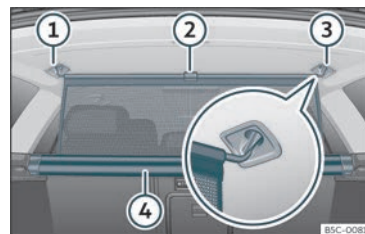

Fig. 121 In the luggage compartment: securing the net partition.
- Pull up handle »» Fig. 121 ② to remove the net from the casing ④.
- Hook in the net partition on the right or left side ③ (magnified image).
- Hook in the net partition into the housing on the other side ① by pulling the rod.